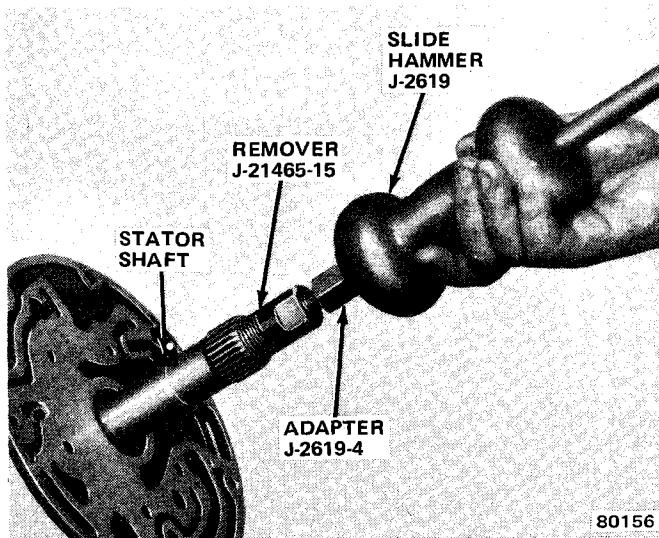

Fig. 2C-129 Stator Shaft Front Bushing Removal
(4) Remove shaft and cover assembly from vise.
(5) Support pump cover on wood blocks with cover seal ring hub facing upward.
(6) Clean bushing bore.
(7) Assemble Installer J-21465-2 and Driver Handle J-8092.
(8) Position replacement bushing on Installer J-21465-2 and install bushing (fig 2C-132). Drive bushing into bore until bushing is 19/32-inch below hub surface.
(9) Remove bushing tools.
(10) Flush cover and shaft assembly with solvent to remove any chips or shavings generated by bushing installation.
(1) Mount transmission case in Holding Fixture J-8763-01 (fig. 2C-11). Position case so converter housing is facing downward.